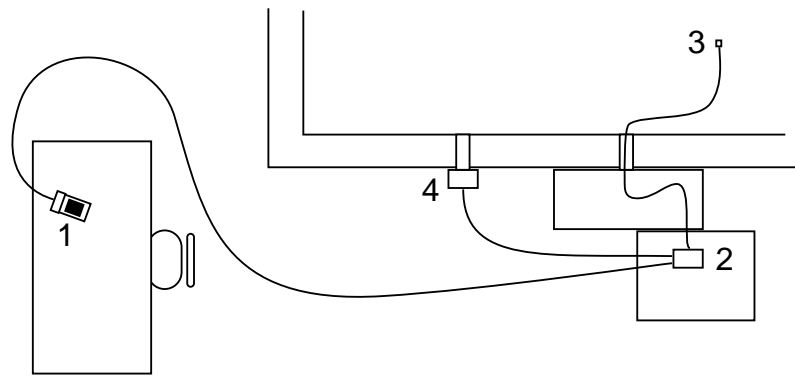

Figure 2.21 Intercom system
The voice intercom system is composed of a table station (1) and a main station with a power supply (2), see Figure 2.21. The microphone (3) of the main station is inside the magnetically shielded room. The microphone cable runs to the main station via the feed-through filter. The loudspeaker for the main station is outside of the magnetically shielded room attached on a separate feed-through tube on the magnetically shielded room wall (4).